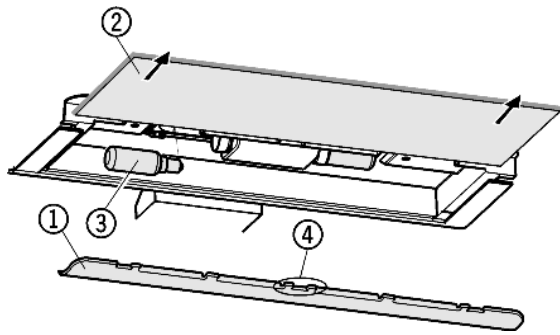

Fig. 16
- ▶ To remove the cover Fig. 16 (1): put your finger behind the cover and disengage it.
- ▶ Pull out the glass shelf Fig. 16 (2).
- ▶ Change the bulb Fig. 16 (3).
- ▶ Attach the cover again, engage it at the right and left and pay attention that the middle hook Fig. 16 (4) grips over the glass shelf.